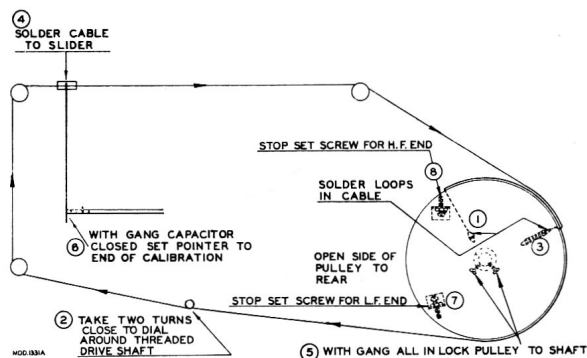

Figure 3.—Dial Stringing Diagram
**DIAL STRINGING:**—Figure 3 shows how the bronze cable that drives the tuning gang and pointer can be restrung if necessary. Instructions are given on the diagram, and the numbers show the order of procedure to follow.